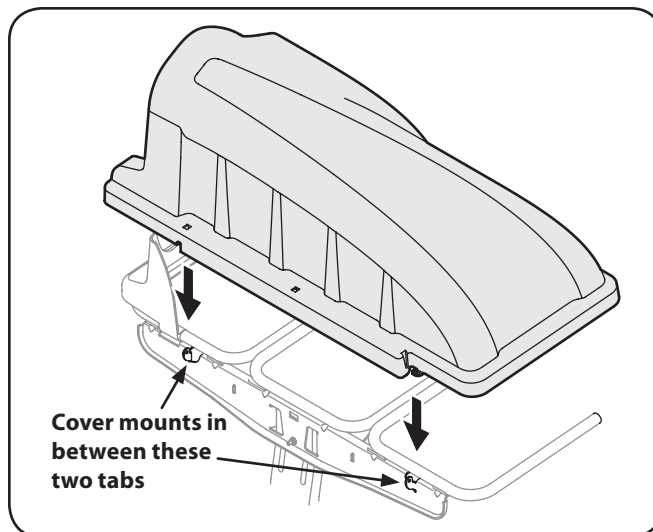

Figure 4-11
5. Install the bagger cover onto the bag support assembly, as seen in Fig. 4-11. The plastic cover goes in between the two mounting tabs.